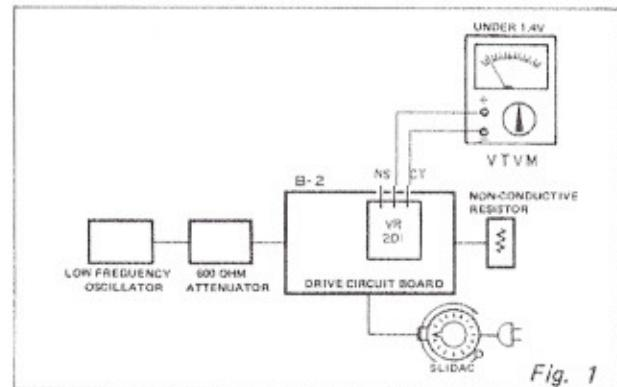

Fig. 1
- Connect as shown in Figure 1 and, prior to turning on the power switch, turn drive circuit board BIAS VR (VR102) fully counter-clock-wise.